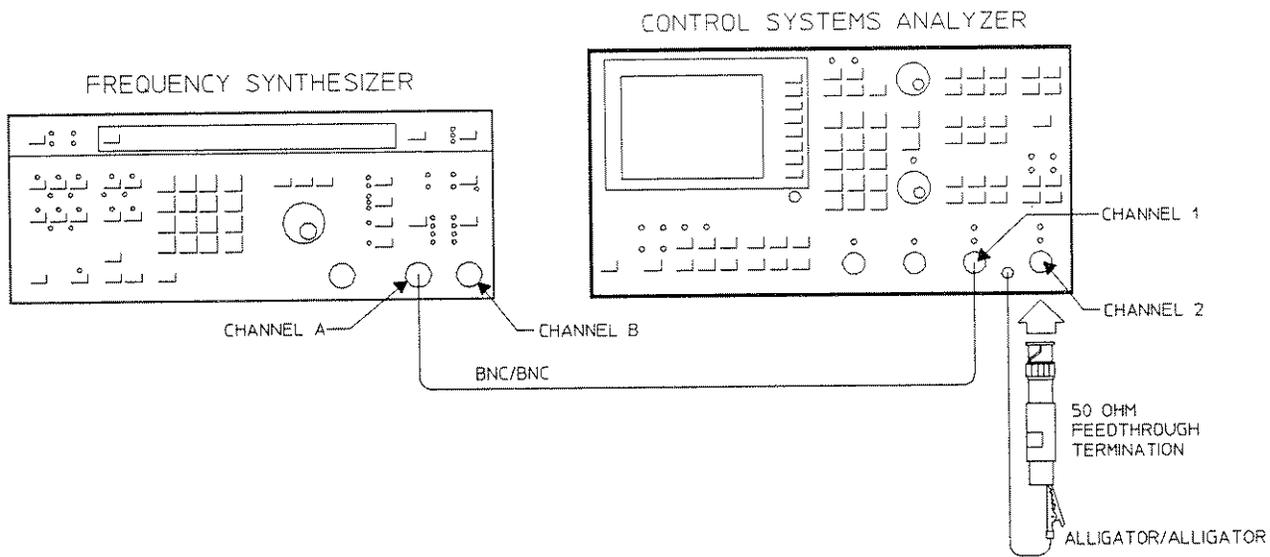

Figure 4-24. Cross Talk Channel 2 Test
1. Connect the test instruments as shown in Figure 4-24.